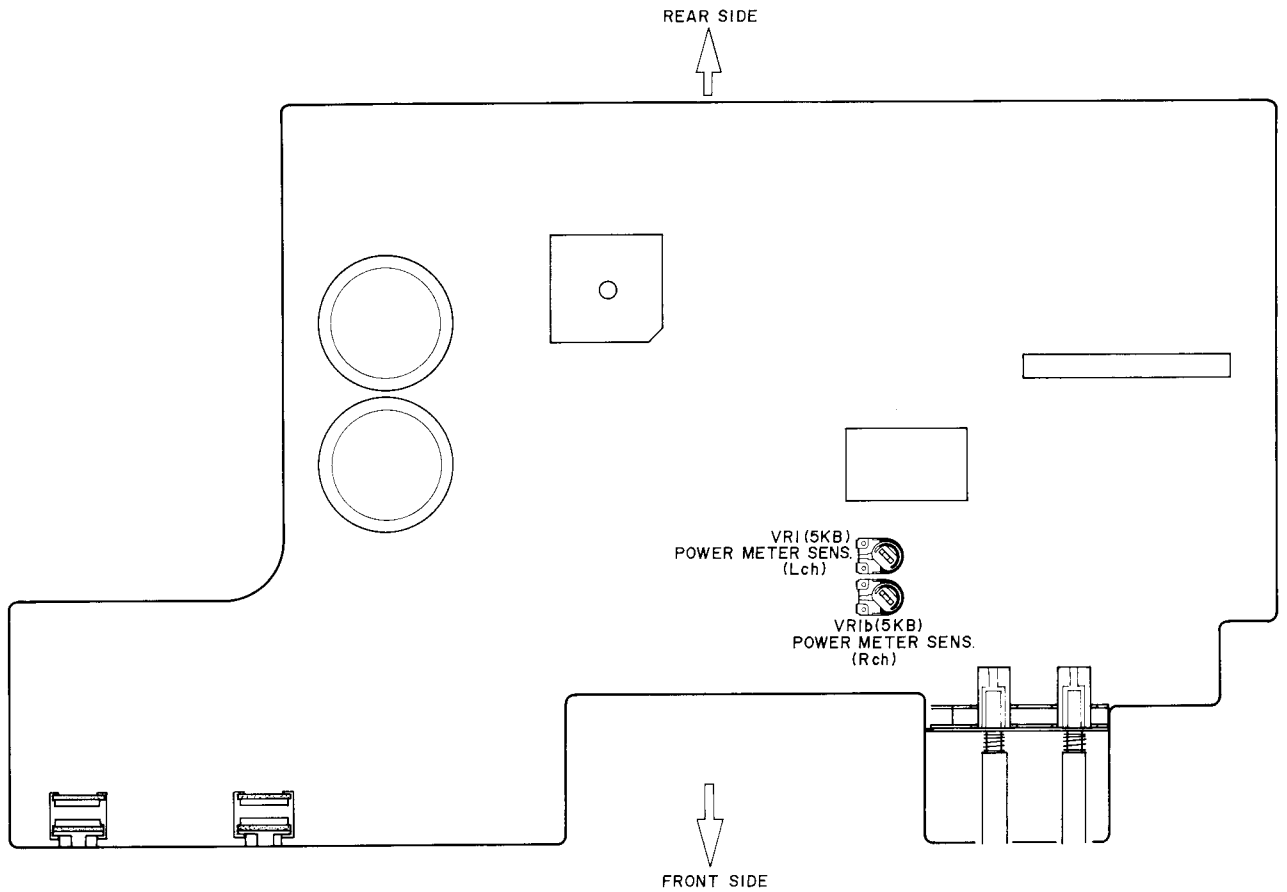

Fig. 5 Main P.C Board
1. POWER METER SENSITIVITY ADJUSTMENT (Refer to Figs. 5, 6)